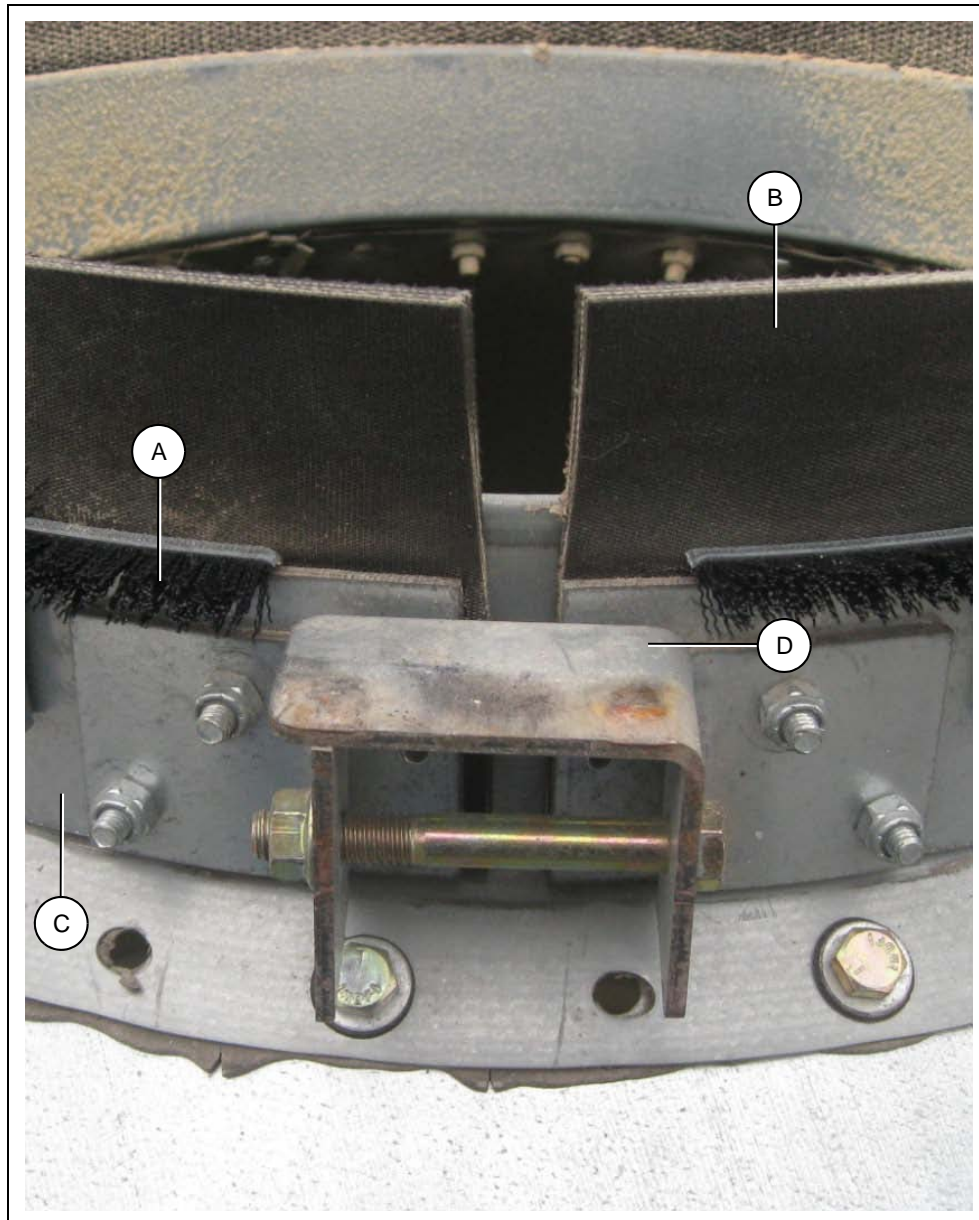

Figure 1
2. Install the Snow Guard brush (A) around the rubber belting (B) and position it down to the top of the clamp band (C).
3. Rotate the brush with the loose ends on each side of the striker plate (D). *(See Figure 1.)*